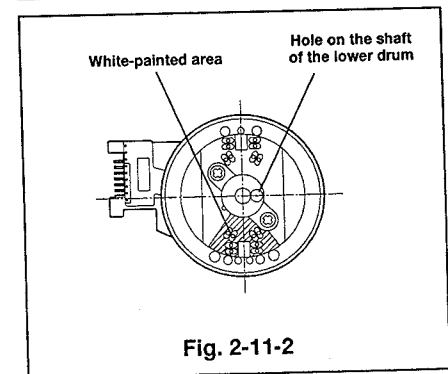

Fig. 2-11-2
- ① Attach the rotary transformer and the drum motor so that the terminals of both face in the same direction, and secure them with the screws (c, d and e). Secure the rotor case with the screws (a and b).
- ② Position the white painted (shaded) area of the upper drum so that the area is -90° apart from the hole of the lower drum shaft. Insert the upper drum. Take care not to touch the head terminals. [Fig. 2-11-2]
- ③ Secure the upper drum with the two fastening screws. (Tighten the screws alternately.)
- ④ Solder the terminals of each head.